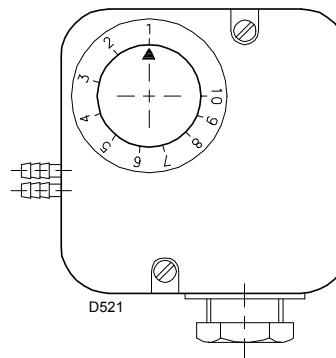

Fig. 37
- Adjust the air pressure switch to the zero position of the scale (Fig. 37).